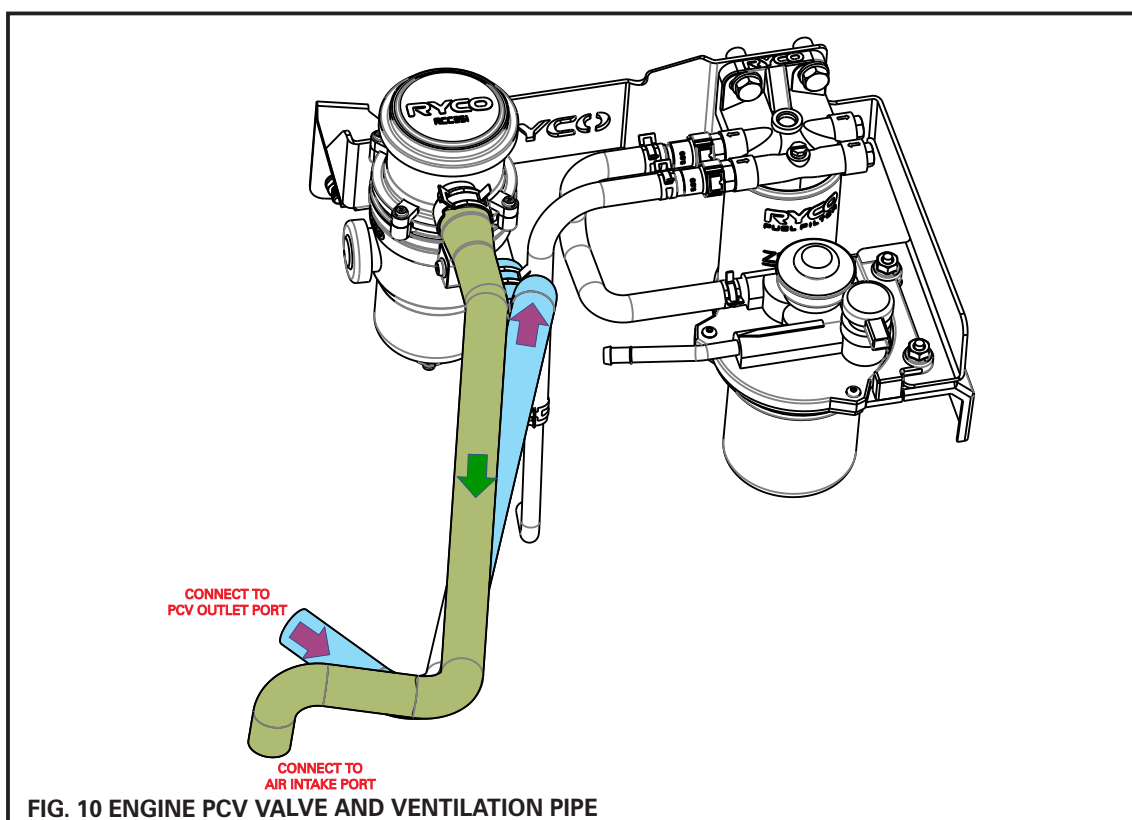

FIG. 10 ENGINE PCV VALVE AND VENTILATION PIPE
3. Connect the larger diameter end of the MH9802A PCV hose (shown blue in Fig. 10.) to the RCC351 lower inlet port, and connect the smaller diameter end of the PCV hose to the engine PCV outlet port and secure with a supplied hose clamp.
4. Route MH9802B (shown green in Fig. 10.) along side MH9802A and connect the large diameter end to the upper port of the RCC351 and secure with a supplied hose clamp.